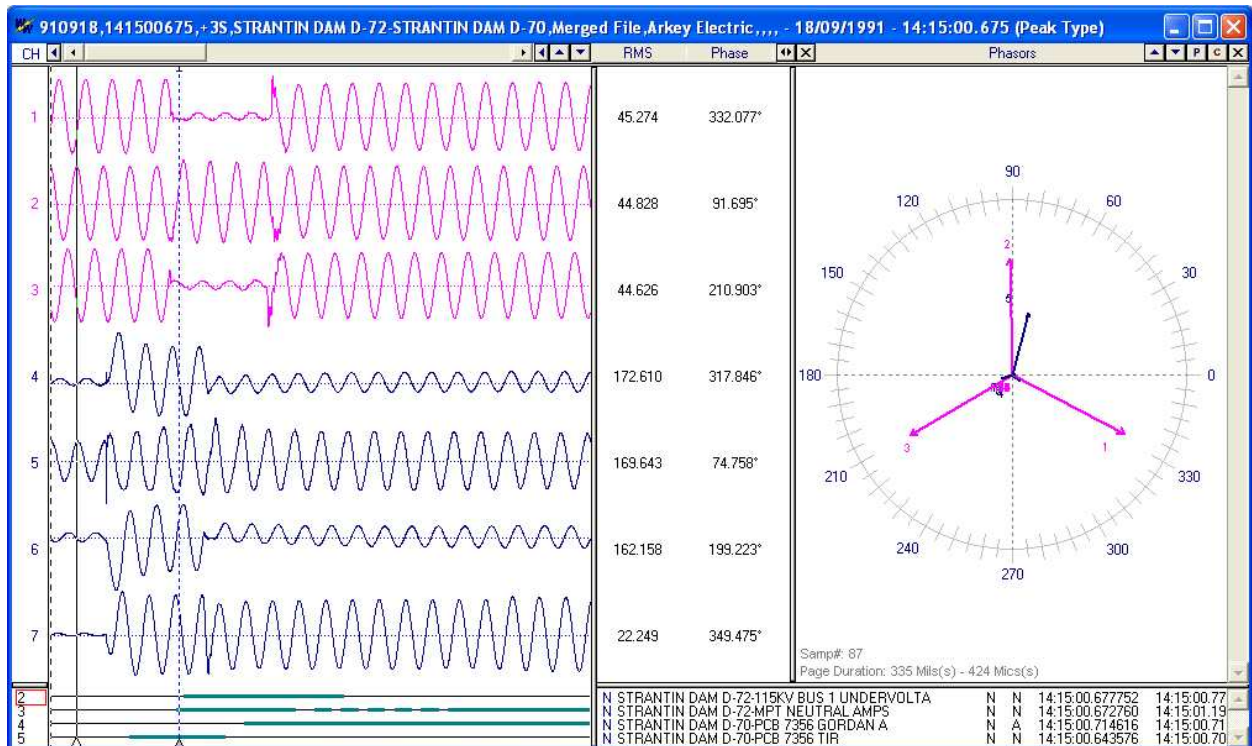

Figure 1.74 Merge Open Files – Result: By Sample (As Applied to Figure 1.70)
- By Sample: Merge regardless of time stamps and/or data bar positions. The reference time is from the active window. And the file with the least amount of samples determines the length of the file. Refer to Figure 1.74.